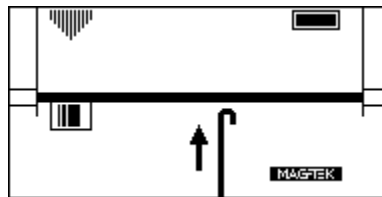

Figure 5-1. CET Orientation
2. Press the power switch off (O).
3. Orient the Card Extraction Tool so the hook and handle are in a parallel plane with the card as indicated in Figure 5-1.